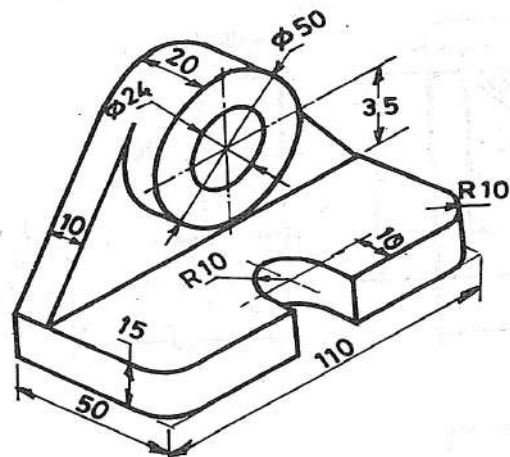

Fig: 4
11. The pictorial view of the machine component is given in Fig. 4. Draw the front view and top view.